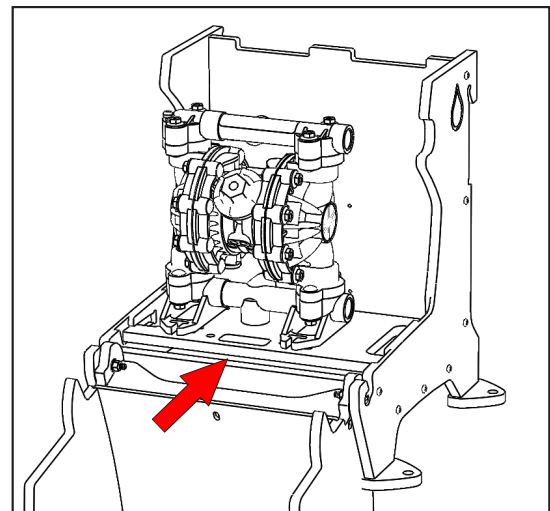

Fig. 9.3: Plate with pump in track at open position
3. Plumb the pump with appropriately sized hoses, secure in place with clamps, and slide back into place as shown in [Figure 9.3].